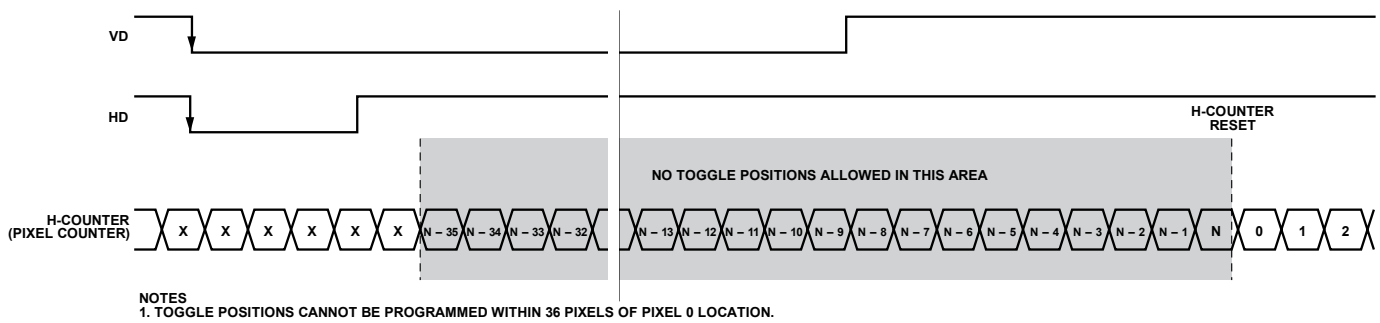
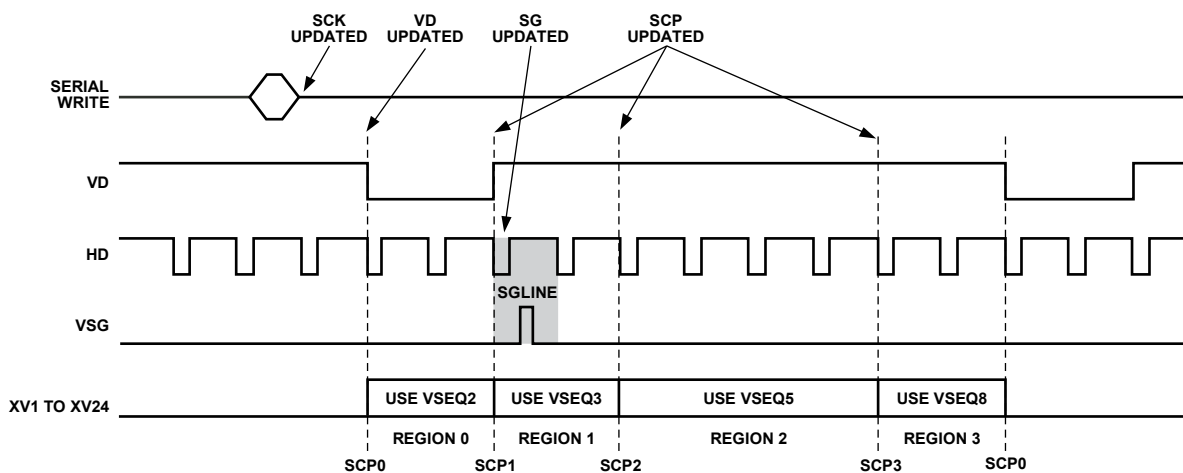

Figure 78. Toggle Position Inhibited Area—Slave Mode
Figure 86. Register Update Locations (See Table 27 for Definitions)
Figure 78 shows the same example for slave mode. The same restriction applies: the last 36 pixels before the counters are reset cannot be used. However, in slave mode, the counter reset is delayed with respect to VD/HD placement, so the inhibited area is different than it is in master mode.
- **SCP Updated**—At the next SCP where they are used, the V-pattern group and V-sequence registers are updated. For example, in Figure 86 this field has selected Region 1 to use VSEQ3 for the vertical outputs. This means that a write to any of the VSEQ3 registers, or any of the V-pattern group registers, which are referenced by VSEQ3, updates at SCP1. If multiple writes are done to the same register, the last one done before SCP1 is the one that is updated. Likewise, register writes to any VSEQ5 registers are updated at SCP2, and register writes to any VSEQ8 registers are updated at SCP3.
It is recommended that the registers in the configurable address area not be written within 36 pixels of any HD falling edge where a sequence change position (SCP) occurs. See Figure 77 and Figure 78 for an example of what this inhibit area looks like in master and slave modes. This restriction applies to the V-pattern, V-sequence, and field registers. As shown in Figure 86, writing to these registers before the VD falling edge typically avoids loading these registers during SCP locations.